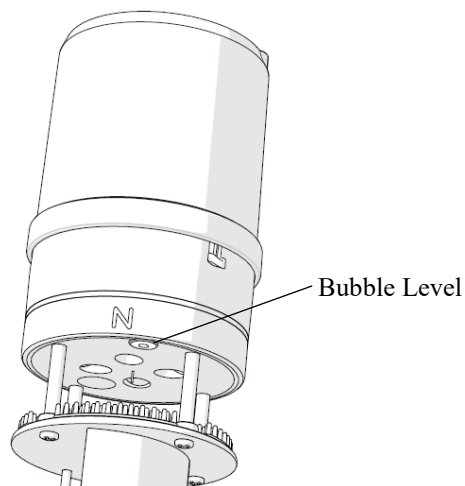

FIGURE 7-4. Bubble level on the ClimaVUE 50
4. Use a torpedo level or the bubble level underneath the sensor to level it (FIGURE 7-4). The angle of the instrument mount may need to be adjusted if the mast is not vertical. Shims can be added between the top of the mast and the bottom of the ClimaVUE 50 to achieve level. The sensor must be within $\pm 2^\circ$ of dead level (0, 0) in both the X and Y directions to accurately measure rainfall and solar radiation. The $\pm 2^\circ$ can be confirmed by viewing the Tilt x and Tilt y orientation values returned by the **R7!** command.